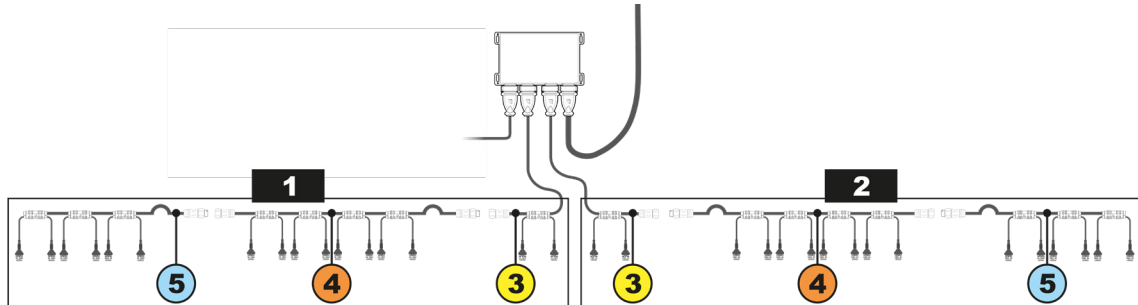

Fig. 11
**1** The Seletron units are connected to the ECU (Fig. 11) via two main wiring harnesses (1 and 2), each made up of three types of cables: head-end cable (3), extension cable (4) and termination cable (5); the termination cable is indispensable in order to close circuit. **The system will not operate without a termination cable.**